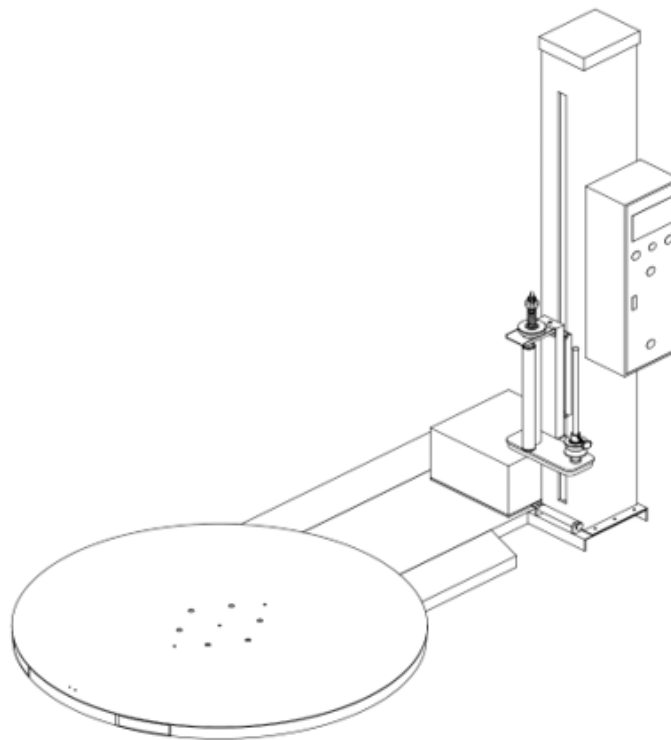

FIG2-8
3. Fit the film lifting unit onto the relevant position of the upright mast and fasten using 4 M10 screws. See Fig 2-8;